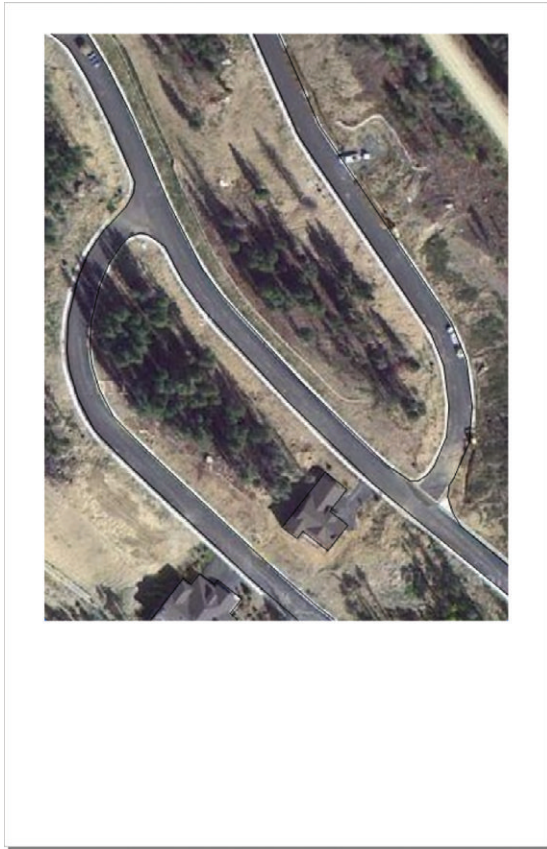

Figure 15.28 The site plan extents
5. Use the Select tool to resize and move the viewport to fit the page as shown in Figure 15.28.